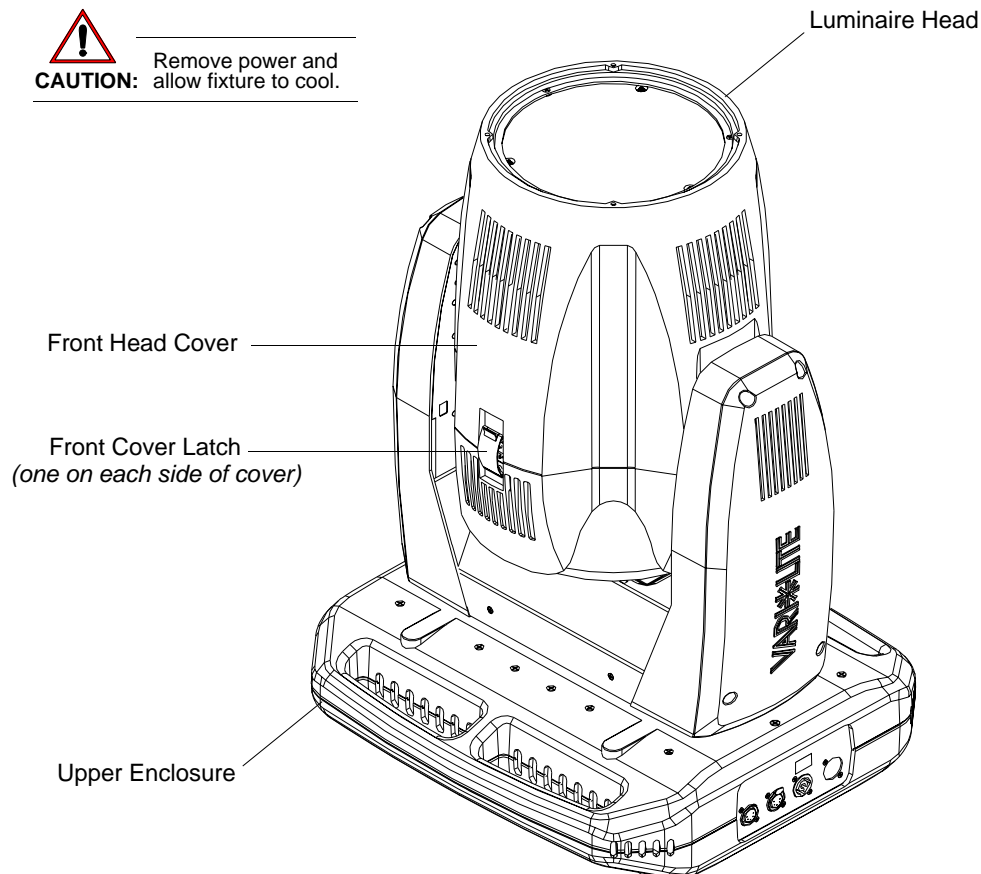

Figure A-1: VLX™ Wash Luminaire
- Step 2. Carefully set luminaire on upper enclosure, rotate head as shown in Figure A-1, and engage tilt lock.